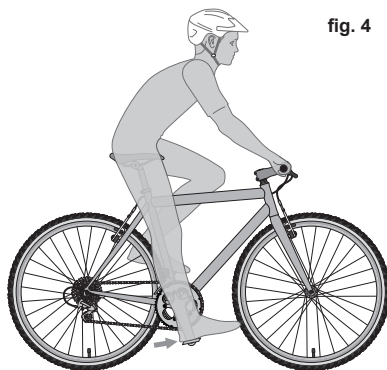

fig. 4
1. **Up and down adjustment.** To check for correct saddle height (fig. 4):